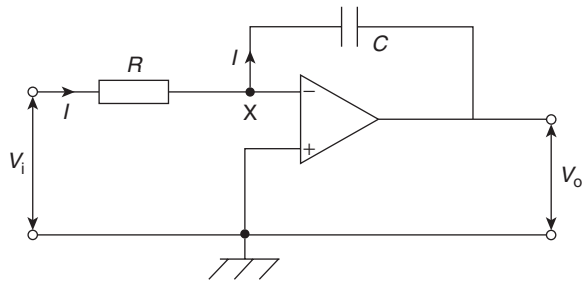

Figure 19.15
The circuit for the op amp integrator shown in Fig. 19.15 is the same as for the op amp inverting amplifier shown in Fig. 19.5, but feedback occurs via a capacitor C , rather than via a resistor.
Since the inverting (-) input is used in Fig. 19.15, V_o is negative if V_i is positive, and vice versa, hence the negative sign in equation (9).
Since X is a virtual earth in Fig. 19.15, i.e. at 0V, the voltage across R is V_i and that across C is V_o . Assuming again that none of the input current I enters the op amp inverting (-) input, then all of current I flows through C and charges it up. If V_i is constant, I will be a constant value given by $I = V_i/R$. Capacitor C therefore charges at a constant rate and the potential of the output side of C (= V_o , since its input side is zero) changes so that the feedback path absorbs I . If Q is the charge on C at time t and the p.d. across it (i.e. the output voltage) changes from 0 to V_o in that time then: